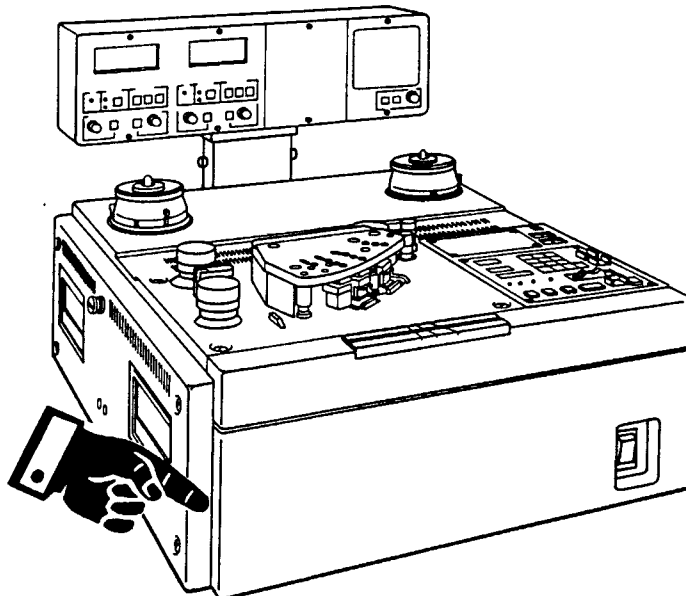

Figure 6-24. ALN Panel Location
STEP 5 Expose the ALN Panel as shown in Figure 6-24.